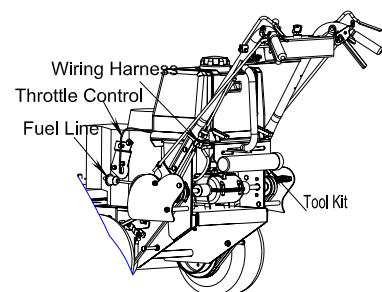

FIG6
- Route the Throttle Cable through the Transmission Cover and attach to engine conform to Engine Operator Manual. Fuel Tank line connect the line of engine (The positions of Fuel Filter And Throttle Cable Attachment are a bit different on different models of Engines.) The wiring harness and tool kit must be connected as FIG6.